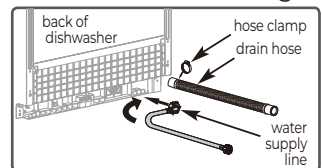

Fig. 7
1. Connect the water supply line and drain hose behind the machine. Fig. 7.